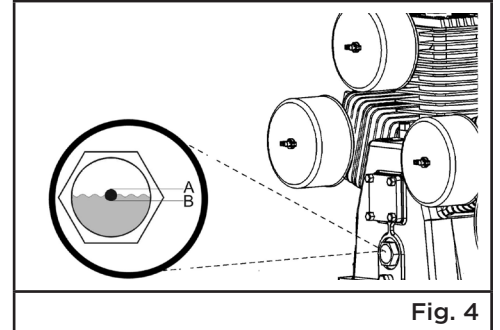
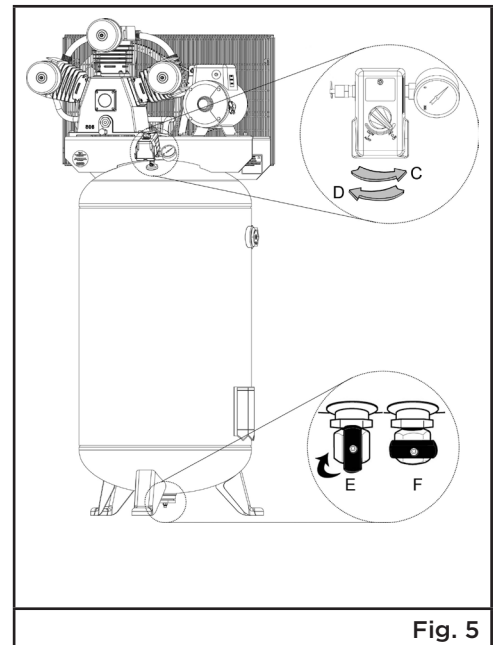

Fig. 4
Fig. 5
1. Check the level of oil in the pump with the sight glass. The pump oil level must be between A and B (Fig. 4). Do not overfill or underfill.
4. Open the drain valve (E) by turning it anticlockwise.
5. Turn ON the main power disconnect switch. Turn the pressure switch to the ON position (D). The motor should start. Allow the compressor to run for 30 minutes, to break in the internal parts. (Fig. 5)
3. Drain tank of moisture after each day's use. Leave the drain valve open until the next time it is used. This will allow moisture to completely drain out and help prevent corrosion on the inside of tank (Fig. 5).